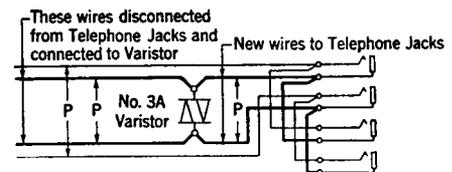

Fig. 3—Connections for P.B.X.'s.
3.06 Connect the leads to the varistor and telephone jacks as indicated by Fig. 3.
- 4.03 Inspect all wiring and check to see that the connections have been made in accordance with Figs. 3, 5, 8 or 10.